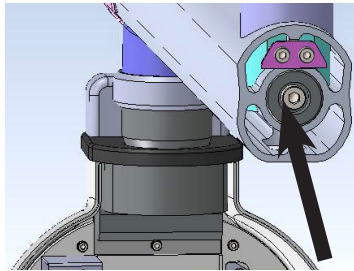

Figure 70
- Remove M8x25 positive lock screw and M8 spring & plane washers from the straight arm using 6mm allen key as shown in Figure 70 .
- Remove M8x25 positive lock screw of the new straight arm using 6 mm Allen key as shown in Figure 70.